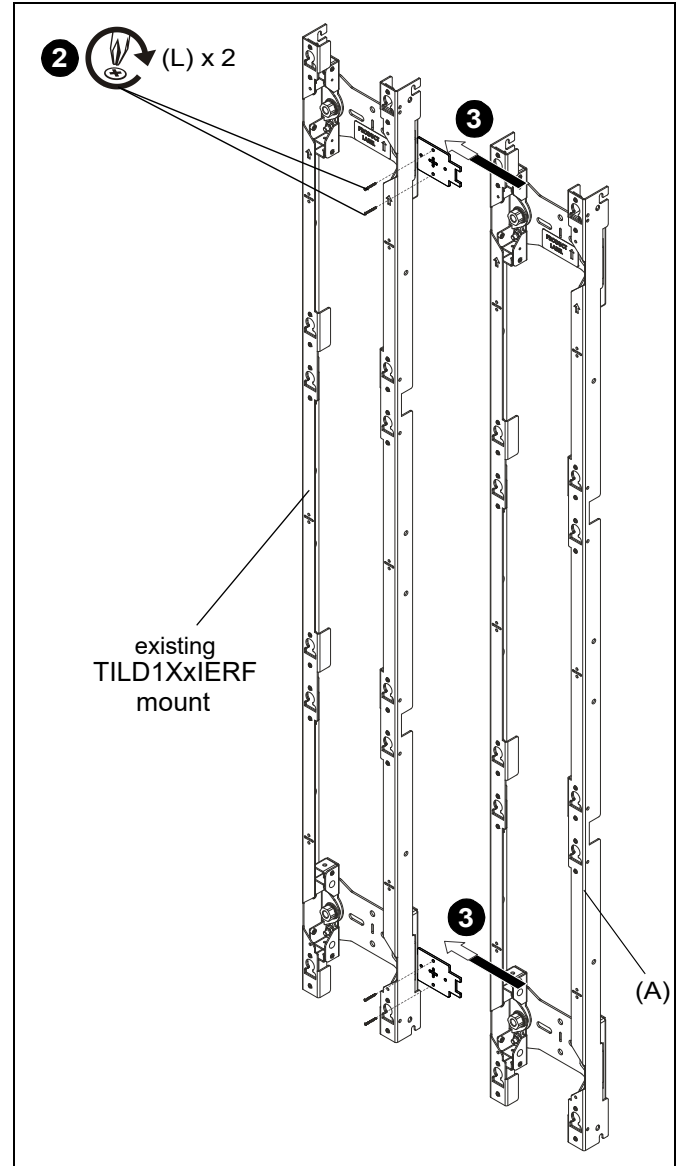
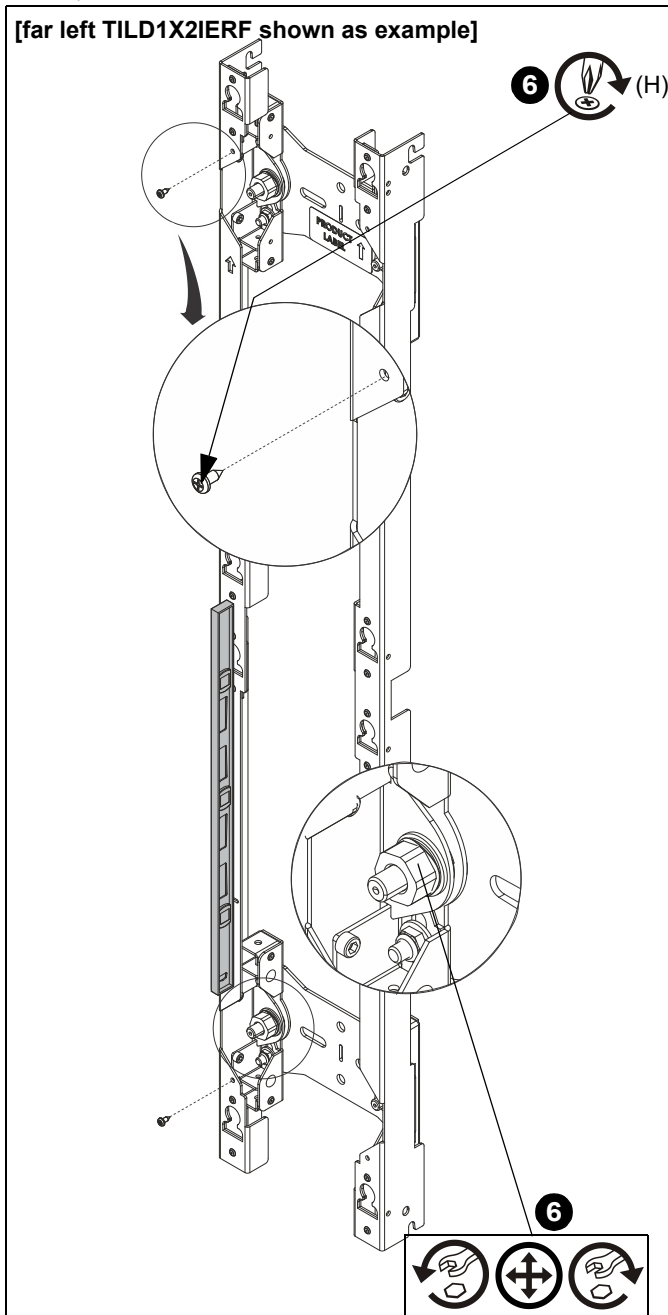

Figure 9
Figure 10
1. Hold main assembly (A) against wall ensuring that mounting slot is lined up with center line marked on the wall in **Determining Installation Site** section. Double-check with a level. (See Figure 10) or (See Figure 9)
2. Mark mounting holes in four mounting slots along the horizontal lines. (See Figure 10)
3. Drill two pilot holes (see Table 1 for size) at each location marked in Step 2 (See Figure 10) or (See Figure 9) and follow fastener information located in Table 1.
- Use two #8 x 2" Phillips drywall screws (L) to secure each spacer plate to wall. (See Figure 9)
- Slide main assembly (A) onto spacer plates (D) and hold against wall in mounting position. (See Figure 9)
5. Continue the installation process until all wall mounts are attached. Use a magnetic level on front face of outside uprights to make sure they are plumb. Use 3/4" hex nuts to adjust as needed. (See Figure 10)
6. Install two #10 x 1/2" Phillips tapping screw (H) into far left and far right upper LED mounting button hole for each LED screen space. Install the tapping screws ONLY on the furthest left and right column of mounts. (See Figure 10)